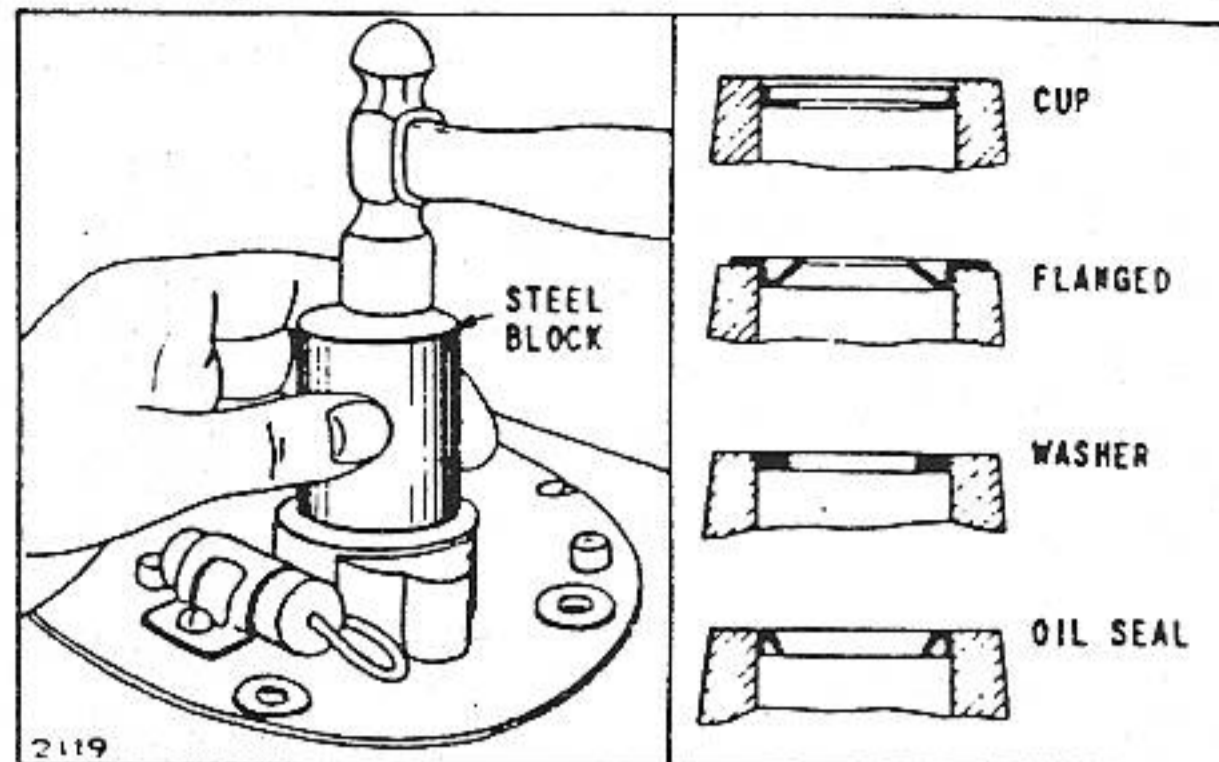

FIG. 164—BEARING OIL RETAINERS
The bearing oil retainer rings consist of four types: (1) The Flange Type, (2) The Cup Type, (3) The Washer Type and (4) The Oil Seal. Fig. 164. Extreme care must be taken to prevent damage to the oil seal when assembling the crankshaft. Fig. 146. and 165
The cup type is assembled with the edges up. The flanged type can be assembled only with the flange up. The washer type can be assembled with either side up. The oil seal is assembled with the sharp edge of the leather or rubber down toward the inside of the engine. Rub leather oil seal with "Lubriplate" or equivalent before assembling. Place the retainer ring in the counterbore and either press or drive it into place. Tool No. 69282-T1 can be used where the retainer ring is driven flush. Fig. 164. There should be an air gap of .010" between the cup type and the flange type and the crankshaft journal. If not, file the retainer ring. Do not file the washer type.